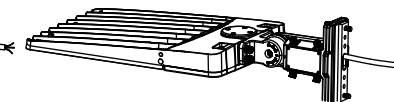

Figure 9
- Step 2: Install the bracket on the fixture, then cover the side lid and tighten it. (Figure 9)